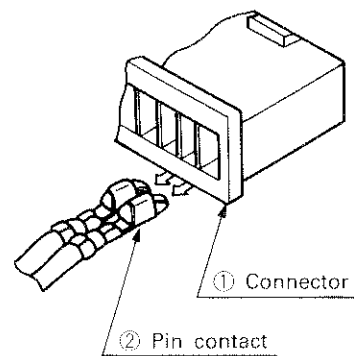

Fig. 4.3.17 Removing the Pin Contacts
- (5) Unplug the shoulder brake pin contacts ② (contact Nos. 1 and 2) from the receptacle housing in the connector ①. See Fig. 4.3.17.
- (6) Remove the two setscrews ③. At this time, use care not to lose the copper plates ⑪. Then, remove the brake disk ④, armature ⑤, and spring ⑥ from the shaft ⑧.
- (7) Remove the four mounting screws ⑨ to remove the coil ⑦ from the brake mounting plate ⑩.
- (8) To install a new brake, reverse the order of removal.
- (9) Adjust the gap by referring to the procedure given in B.
- (10) The pin contacts ② may be plugged into either position, No. 1 and No. 2.